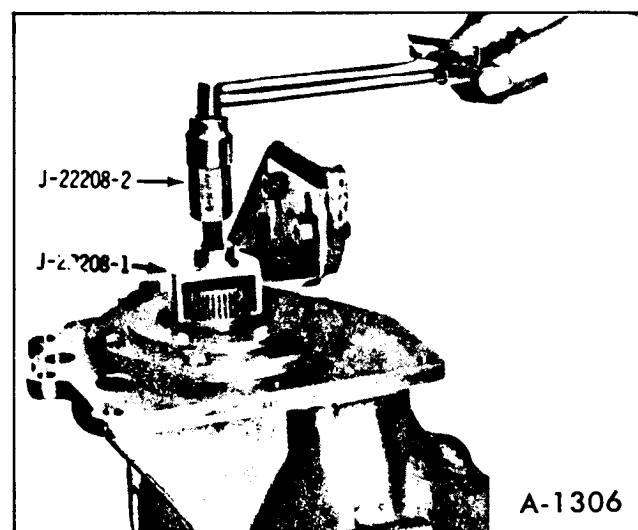

Figure 18—Checking Pinion and Side Bearing Pre-Load
2. Rotate housing so that pinion is up. Install tools as shown in Figure 18, and turn torque wrench several turns and record torque reading. This combined pinion and side bearing pre-load reading will be helpful in determining cause of final drive failure. Remove tools and rotate carrier so that pinion is down.